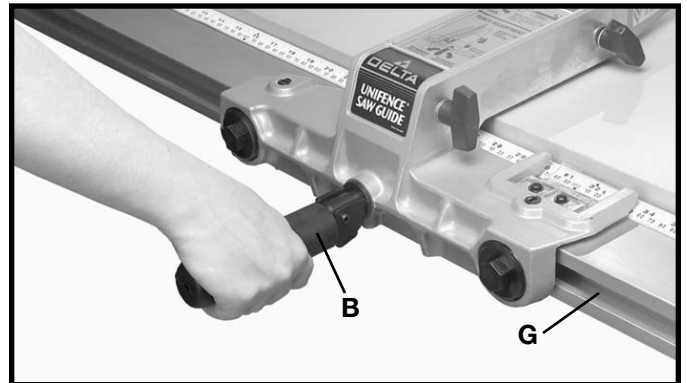

Fig. 36
3. While pushing in on handle, turn to the right indent position as shown in Fig. 36. This will prevent fence clamp from sliding out of the channel (G).